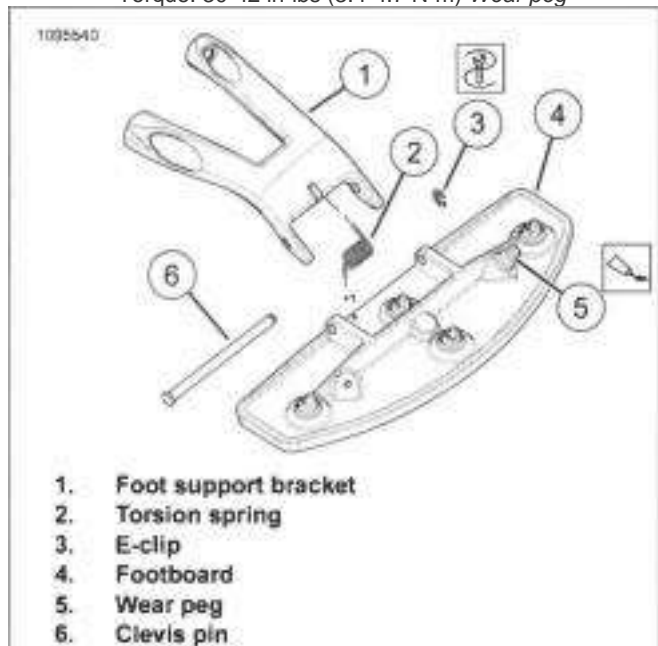

Figure 3-154. Right Side Footboard (Typical)
1. See Figure 3-154. Remove wear peg (5), if equipped.
1. See Figure 3-154. Install footboard.
- a. Insert short leg of torsion spring (2) in hole in footboard (4).
- b. Position footboard and torsion spring on foot support bracket (1).
- c. Install clevis pin (6).